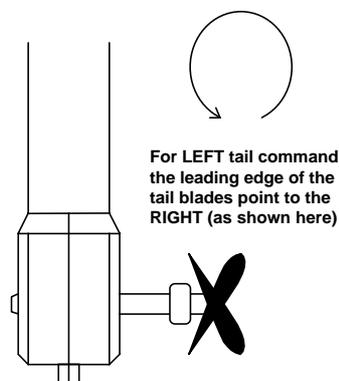

Figure 3 Getting tail servo operating sense right.
- The tail rotor servo operating sense has been correctly set in the transmitter. **Failure to do this will cause an uncontrollable pirouette on take-off and beginners who are in any doubt on this aspect of the set-up should seek advice.** The correct operating sense can be established by looking at the tail rotor blades. With a left tail rotor command held on, the leading edge of the tail blades are to the right of their trailing edges (see Figure 3)